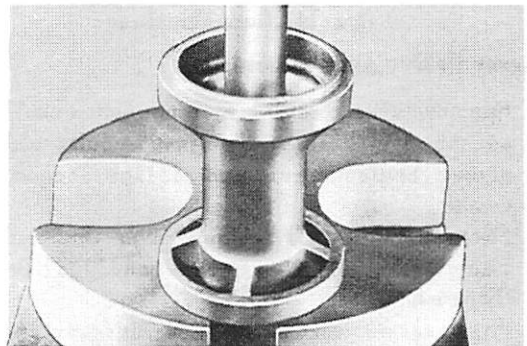

Figure 15. Installing Roller Bearing to Carrier Assembly
1. Press roller bearing into bearing carrier from rear of housing with Bearing Mandrel (91-24288A1) and sleeve adaptor (91-30406). (Figure 15) Press until bearing is flush with start of shoulder at front of housing.